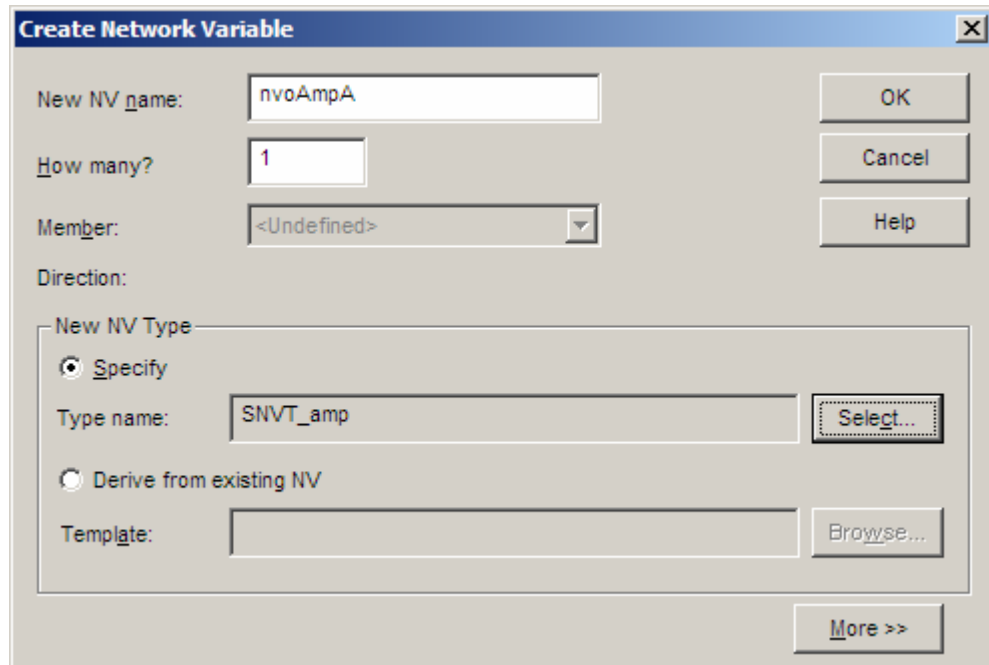

Figure 26. The LonMaker Create Network Variable Dialog for nvoAmpA
- vi. The Create Network Variable dialog should look similar to **Figure 26**.